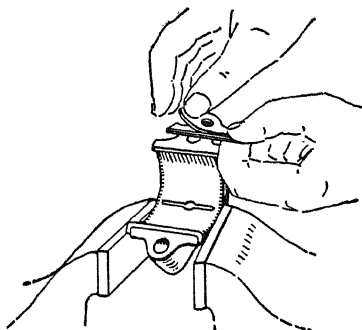

Fig. 7. Peeling Laminated Shims When Adjusting Connecting-Rod Bearings
**Adjusting Shimmed Connecting Rods.** Not all connecting rods are provided with shims. Where shims are provided, the most popular form is what is termed laminated shims, such as illustrated in Fig. 7. These shims are made of thin strips of brass sweated together. As a rule the thinnest layer of lamination is approximately .001 inch. Successive layers may be of this same thickness or thicker.
be pulled off, one at a time, and a thin layer peeled off as suggested in Fig. 7, after which the shim is replaced in exactly the position it occupied originally. When both shims have been peeled, the cap is reinstalled and the connecting-rod bolts are drawn up tight. As a rule this work is done without removing the connecting rod from the engine, simply dropping the crankcase so as to have access to the connecting rods. Having removed a thin layer of shim and tight-